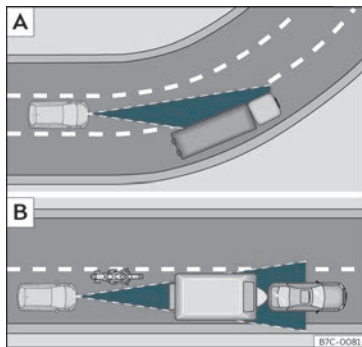

Fig. 159 [A] Vehicle on a bend. [B] Motorcyclist ahead, out of range of the radar sensor.
The ACC may not detect the vehicle in front on a curve, or may regulate the distance from vehicles in other lanes»» Fig. 159 [A].
- Vehicles that are not aligned while driving or that are outside the sensor's detection area, such as motorcycles»» Fig. 159 [B]